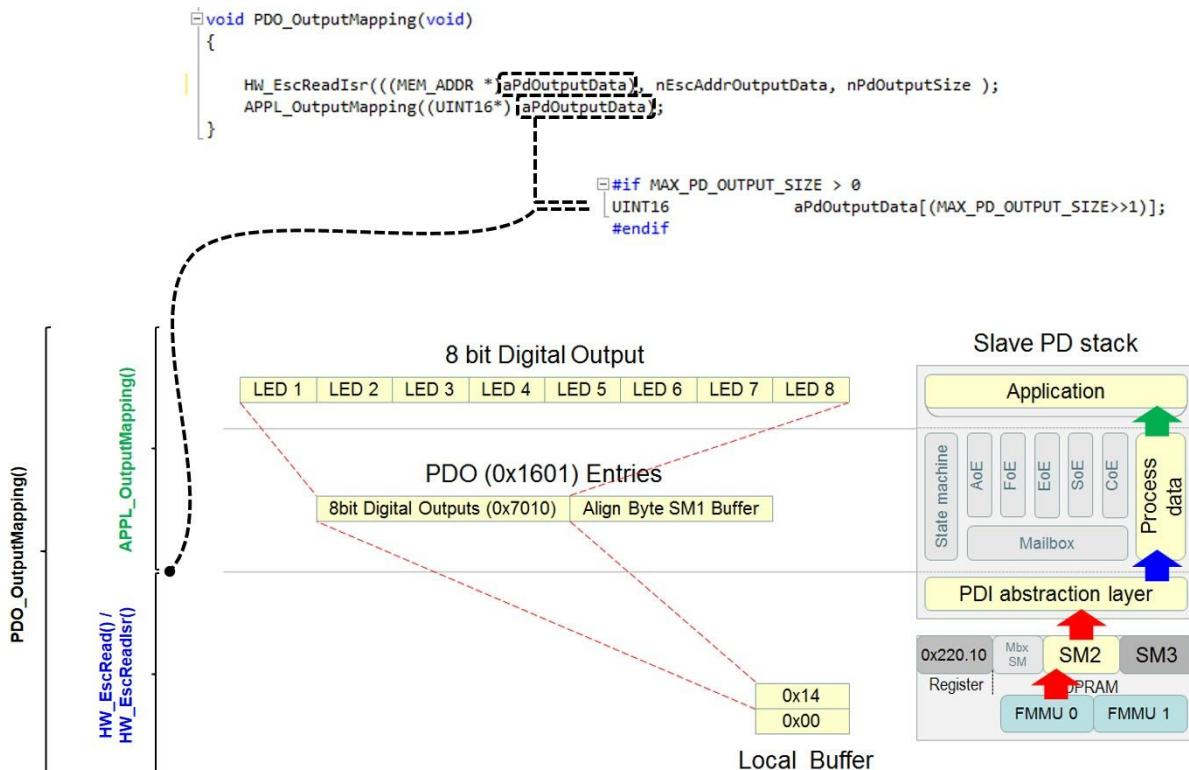

Figure 6: EL9800 Application Output Mapping
1. PDO_OutputMapping() : handles the data from the master to the slave, e.g. EL9800 application, Figure 6.